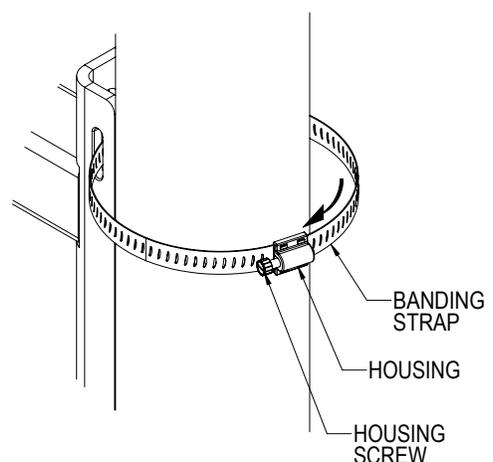

Figure 2
Step 2: Insert the end of the banding strap into the housing's opening then rotate the screw clockwise using a screw driver or a socket wrench to tighten the band around the pole (*Figure 2*). Do not fully tighten.